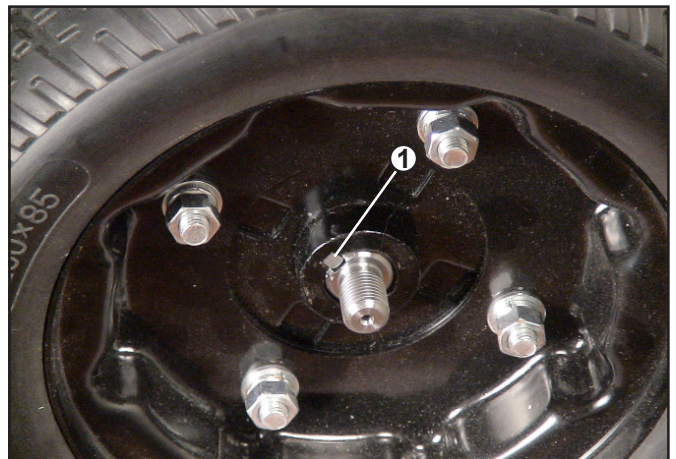

Figure 22. Drive Wheel Axle Key
4. Remove the nut and washer that fastens the wheel to the axle. *Make sure you retain the axle key.* **(See #1 on figure 22.)**